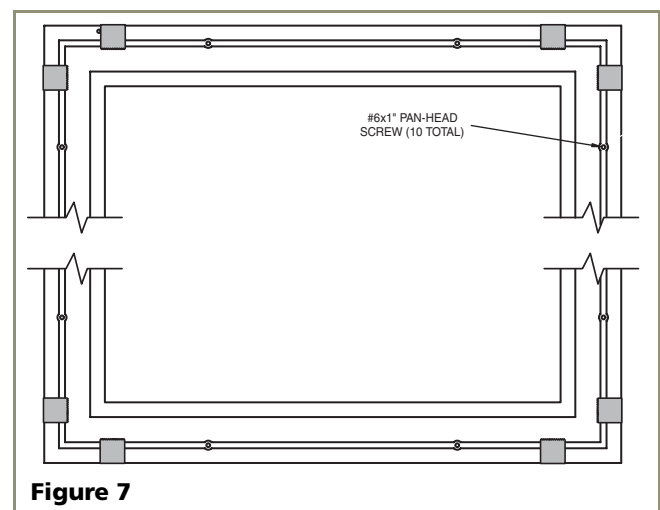

Figure 7
2. Place door and overlay on a clean, flat, protective surface. Use the door frame holes as a guide to lightly punch pilot holes for the #6 x 1" pan-head screws (Figure 7).